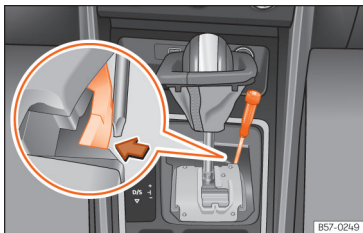

Fig. 104 Selector lever: manual release from position P.
- Using the flat part of a screwdriver, press the yellow tab sideways and keep it pressed down >>> **Fig. 104**.